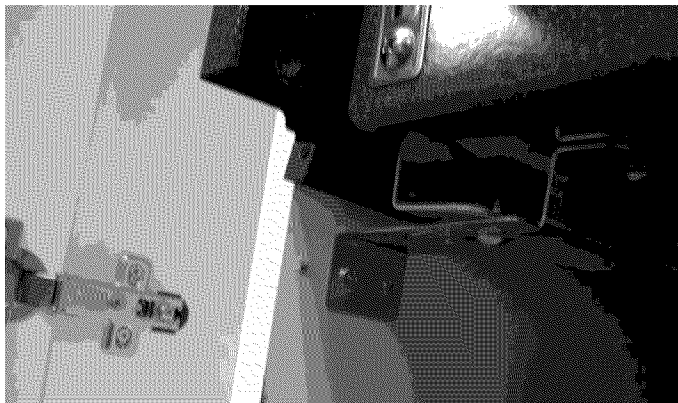

Figure 4
This appliance is manufactured with a white neutral power supply and a frame connected copper wire. The frame is grounded by connection of grounding lead to neutral lead at the termination of the conduit, if used in USA, in a new branch circuit installation (1996 NEC), mobile home, recreational vehicles, where local code do not permit grounding through the neutral (white) wire or in Canada, disconnect the white and green lead from each other and use ground lead to ground unit in accordance with local codes, connect neutral lead to branch circuit-neutral conductor in usual manner see Figure 4. If your appliance is to be connected to a 3 wire grounded junction box (US only), where local code permit connecting the appliance-grounding conductor to the neutral (white) wire see Figure 3.
10. Anti-slide brackets Installation (Figure 4):